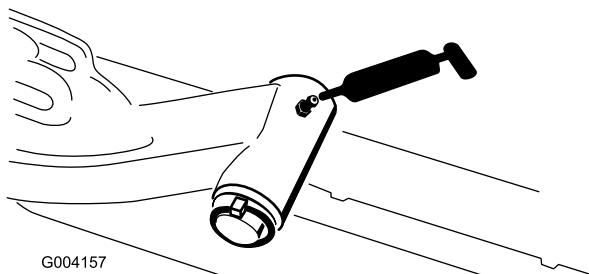

Figure 53
- Lift arm pivot shaft (1 each) (Figure 53)